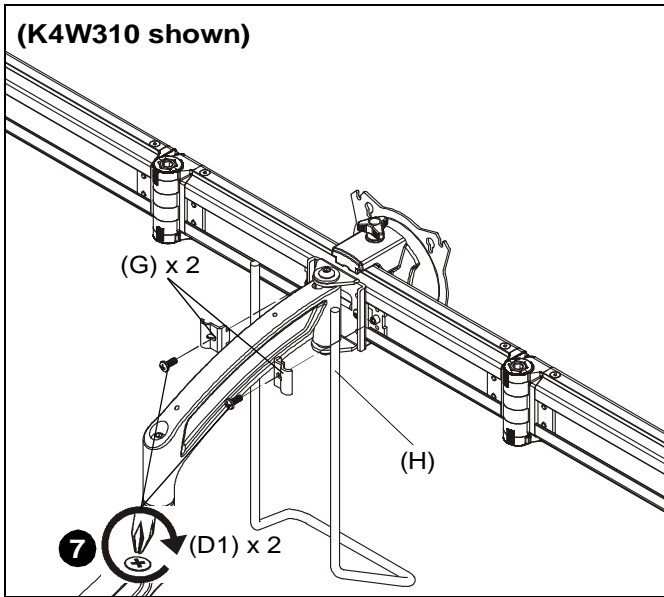

Figure 10
- Use two #10-32 x 3/8" Phillips pan machine screws (D1) and two handle clamps (G) to secure handle (H) to array center (AA or BB). (See Figure 10)